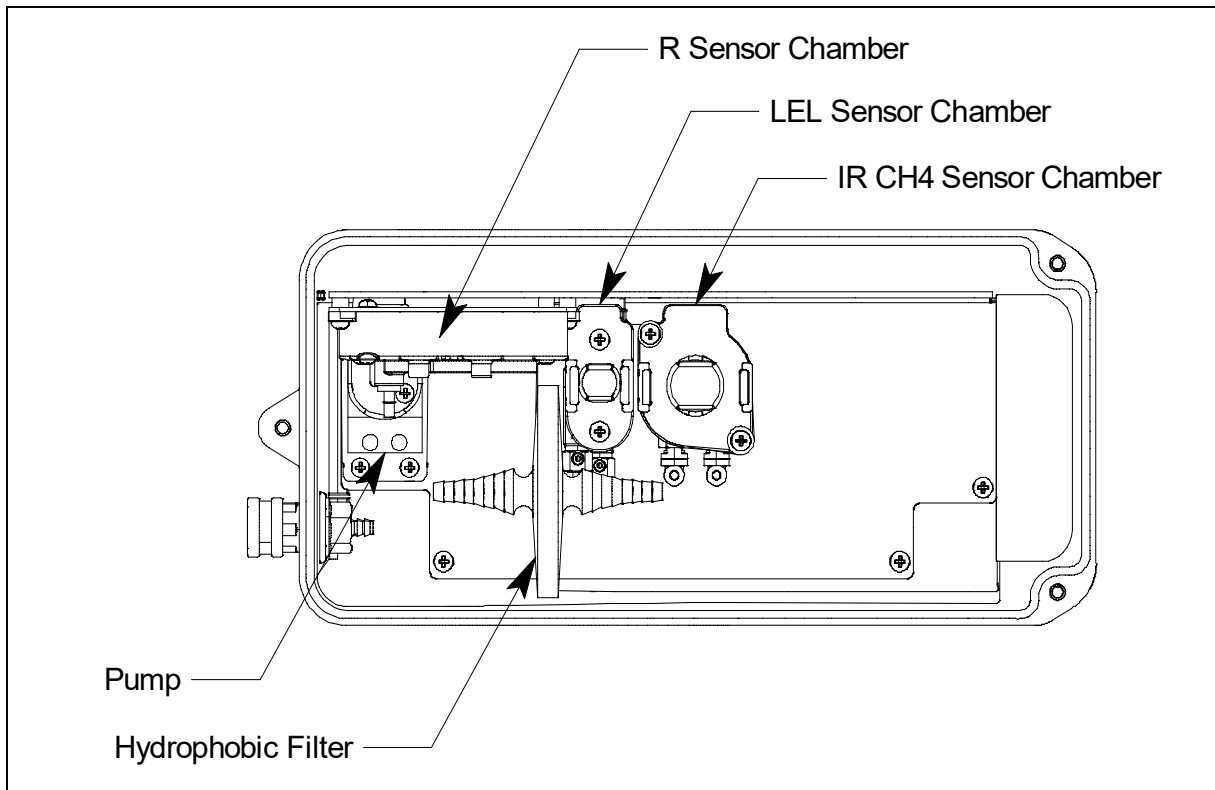

Figure 44: Typical IR Methane Sensor Location
The infrared methane sensor is installed in a single sensor flow chamber which is located in the area next to the LEL sensor chamber. This area can accommodate up to three single sensor flow chambers. Figure 44 above illustrates a typical infrared methane sensor location. The infrared methane flow chamber may also be installed in one of the other two sensor chamber locations depending on the particular version of the EAGLE 3. Some infrared methane instrument configurations do not include the LEL sensor chamber.
6. Locate the infrared combustible gas sensor and retainer. Figure 44 on page 233 shows an infrared combustible gas sensor in a typical location.